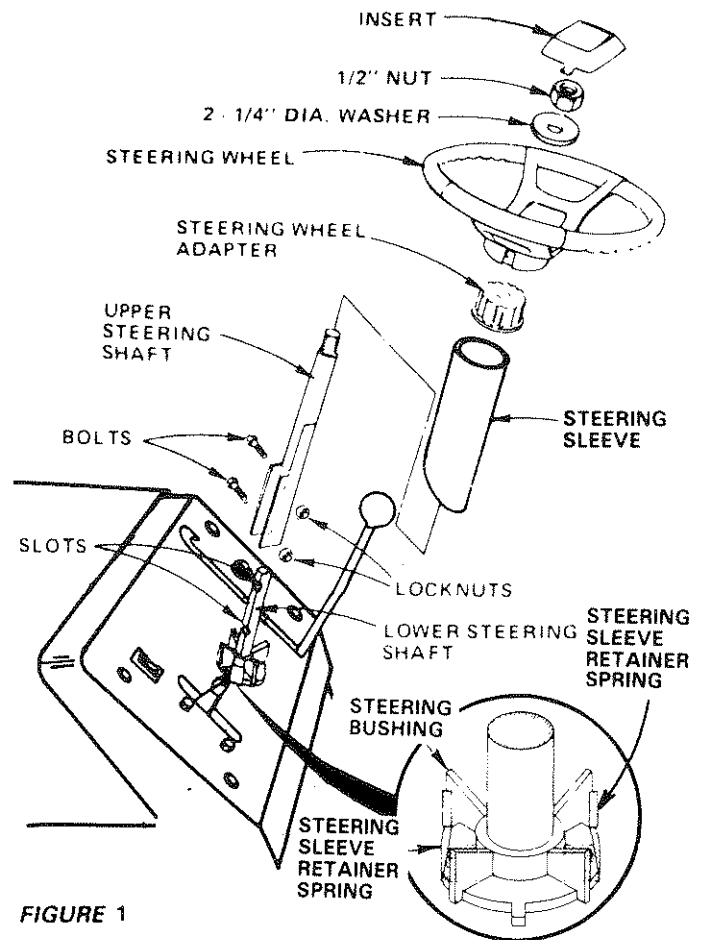

FIGURE 1
1. Slide upper steering shaft over lower steering shaft until bolt holes line up with slots in lower steering shaft (Fig. 1).